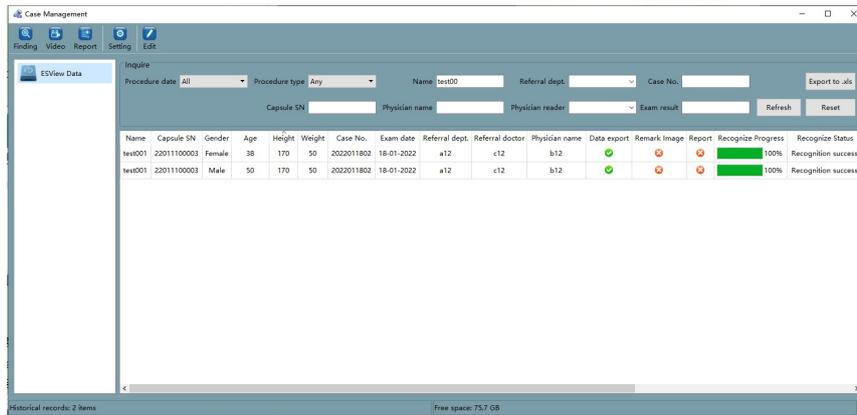

Figure 4-60: Case Management Interface
1. In the main software interface, select “Tool” → “Case management” to access the case management interface (Figure 4-60). The software will automatically add the data export path to the case data storage path.
- In the case management interface (shown in Figure 4-60), select a case and click  to open the case video and load the finding file. Click  to open the case video, click  to open the recently saved report, click  to access the patient information editing interface (Figure 4-63), where you can change patient data. Alternatively, in the main software interface, open a video file and select “File” → “Edit patient info” to access the patient information editing interface.